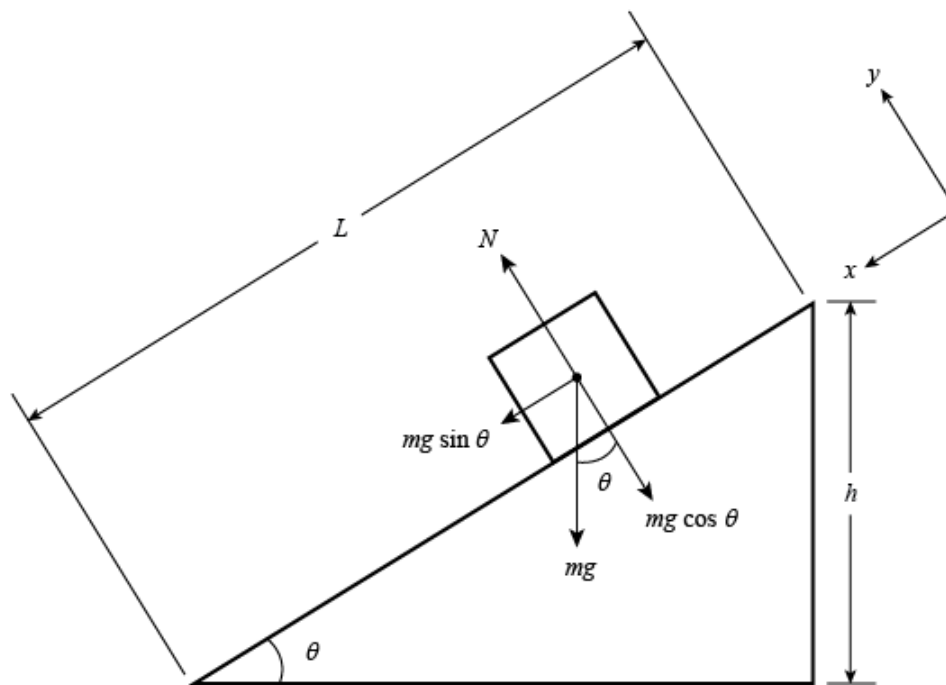

Figure 1
When an object is placed on a "frictionless" inclined plane, there are two forces acting on it: the force, W , due to gravity and the normal force, N , exerted on it by the plane. Since the plane is assumed to be frictionless, there is no component of this contact force parallel to the plane. If the x - and y -axes of the system are chosen to be parallel and perpendicular to the incline of the plane respectively, then the weight, mg , can be resolved into its components as shown in Figure 1.
Thus it is the component of the weight parallel to the incline that produces the acceleration down the plane. Since the plane in Figure 1 has length, L , and is inclined to a height, h , the value of $\sin \theta$ is h/L . Substituting this into equation (2) yields an acceleration down the plane of